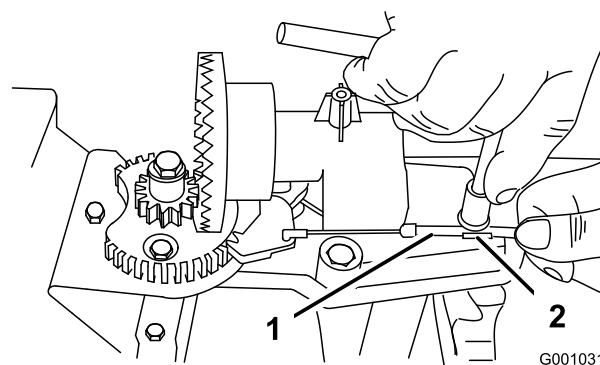
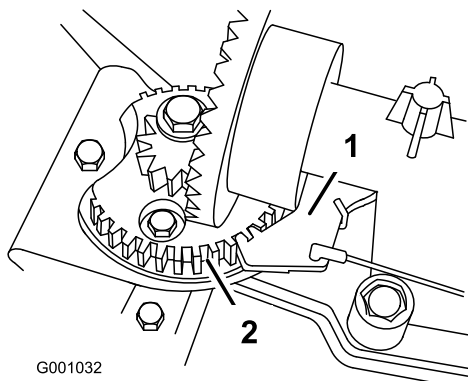

Figure 56
Figure 57
2. Loosen the bolt on the cable clamp (Figure 56).
3. Grasp the cable conduit and move it toward the front of the machine until the discharge chute latch fully engages the gear teeth (Figure 56 and Figure 57).
Note: The latch is spring loaded and will naturally move into the teeth of the gear (Figure 57).